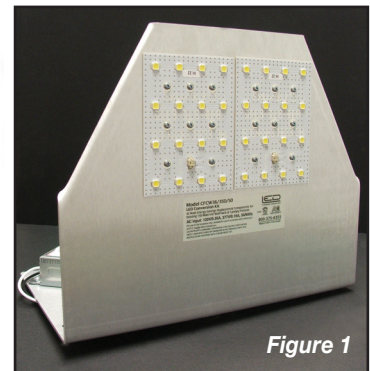

Figure 1
- 1 – Conversion Kit (see FIGURE 1)